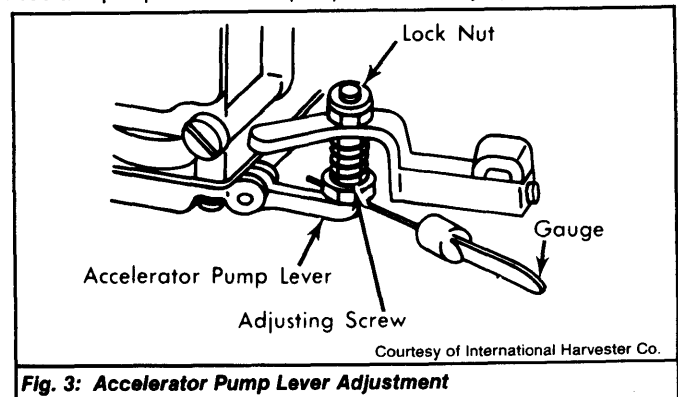

Fig. 3: Accelerator Pump Lever Adjustment
1) Open throttle valves wide open. Using a feeler gauge, measure specified clearance (.015") between the lever adjustment screw head and pump arm with the pump arm manually open. See Fig. 3.